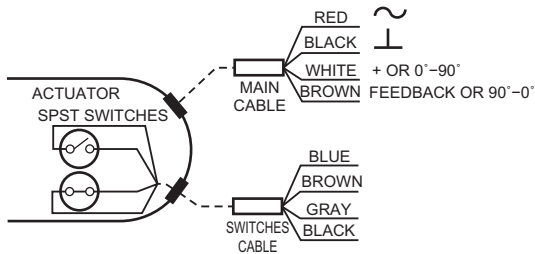

Fig. 10. Cable installation details.
4. Apply control signal for actuator full open or full closed position. (See Fig. 10 and Table 3.)
- a. (0)2-10 VDC: apply 10 VDC signal to control wire (WHITE).
- b. 10-(0)2 VDC: apply (0)2 VDC signal to control wire (WHITE).
- c. (0)4-20 mA: apply 20 mA signal to control wire (WHITE).
- d. 20-(0)4mA: apply (0)4 mA signal to control wire (WHITE).
6. Apply control signal for actuator 0% position. (See Fig. 10 and Table 3.)
- a. (0)2-10 VDC: apply (0)2 VDC signal to control wire (WHITE).
- c. (0)4-20 mA: apply (0)4 mA signal to control wire (WHITE).
2. Connect power to power and common wire. (See Fig. 10 and Table 3.)
2. Check damper position and make sure that 24 VDC/VAC is present at the appropriate connections. (See Fig. 10.)